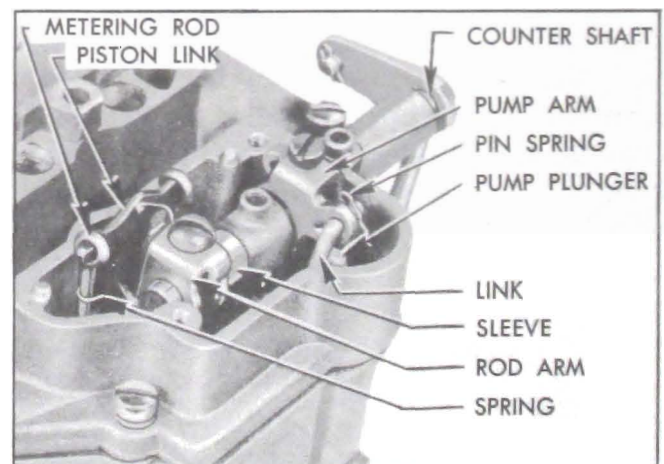

Figure 3-45—Metering Rod and Pump Operating Parts
3. Remove dust cover and gasket. Rotate eyes of metering rods off pins on vacuumer piston link and lift rods out, using care to avoid bending them. See figure 3-45.
4. Remove pump arm link, loosen screws in metering rod and pump arms, then remove pump operating countershaft, spacer sleeve and both levers. See figure 3-45.
down to enter metering rod jet, then rotate eye of rod over pin on vacuumer piston link. Use care to avoid bending metering rod. See figure 3-45.